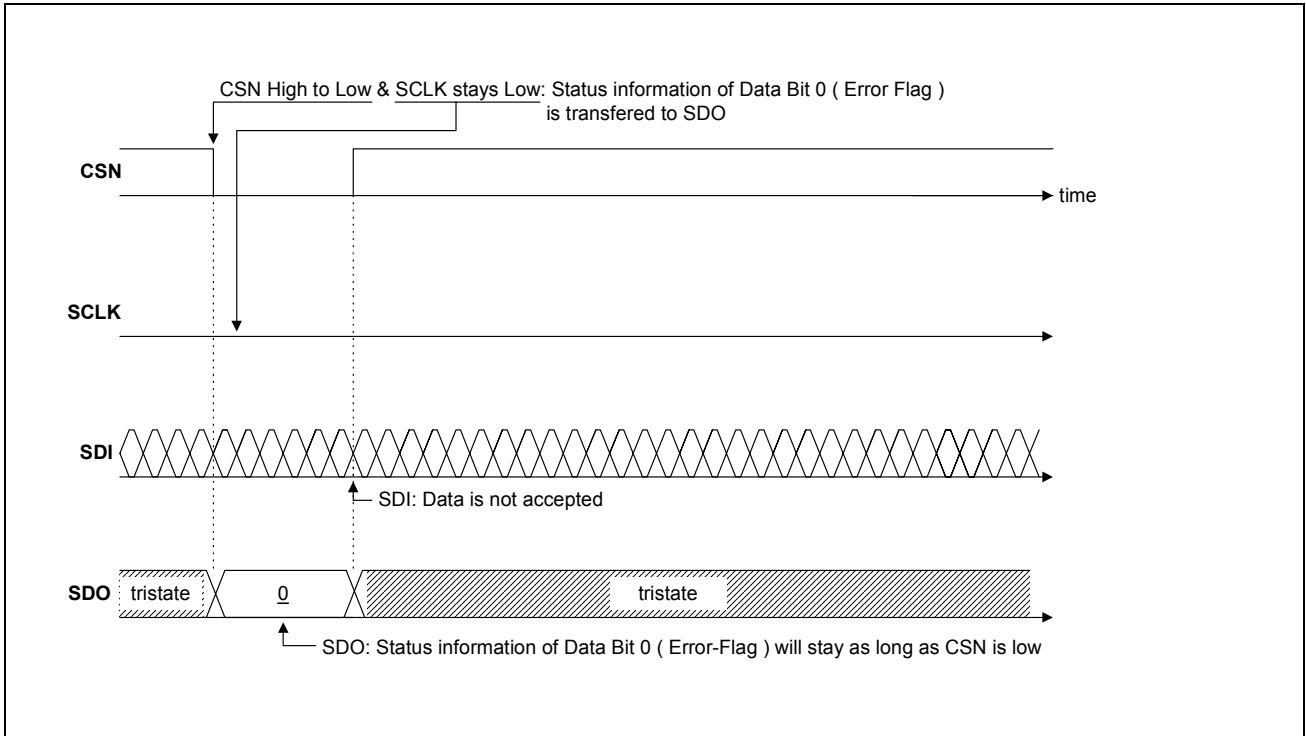

**Figure 6 Output Delay and Switching Time Definitions**
*Note: For switching time definitions, see **Figure 6**.*